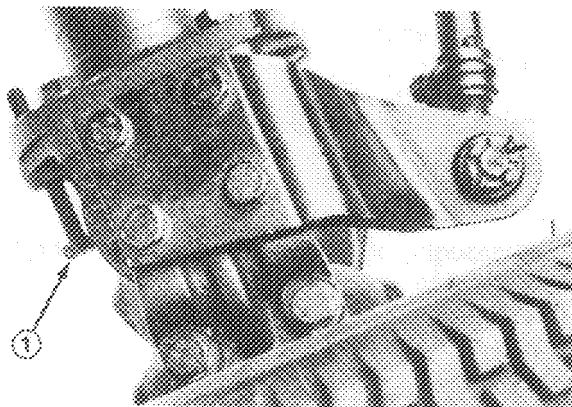

Figure 47
1. Thread bolt in or out until .090" clearance is attained (Fig. 47).